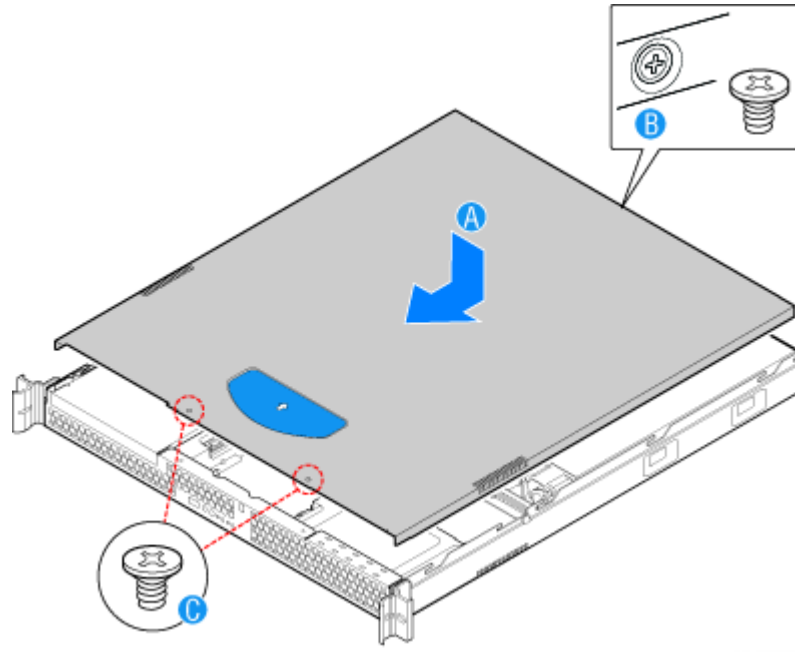

Figure 103: Installing the Server Cover
1. Place the cover over the server so that the side edges of the cover sit just inside the server sidewalls. Slide the cover forward. See letter “A” in Figure 103.
2. Tighten the screw at the rear of the server. See letter “B” in Figure 103.